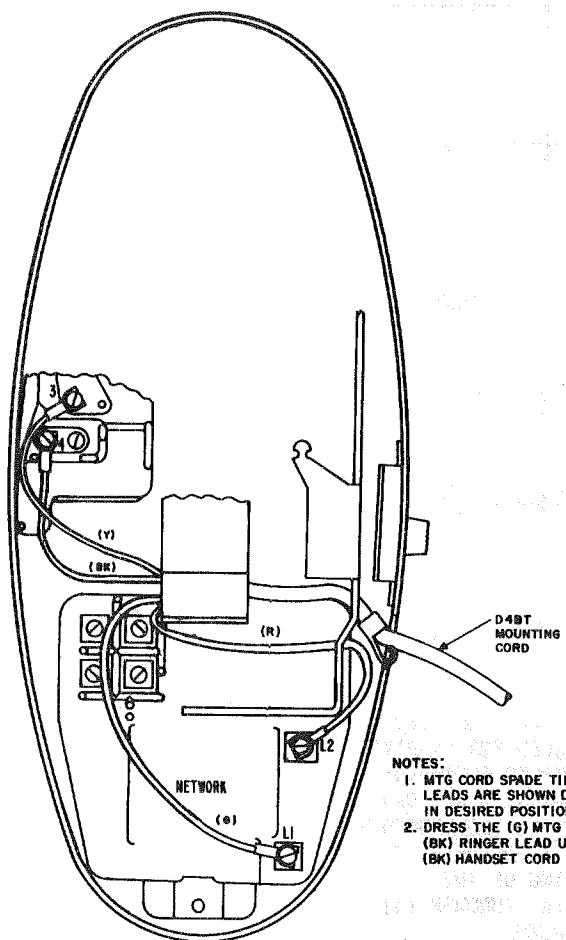

Fig. 6—Method of Terminating D4BT Mounting Cord on Sets with 4010-Type Network
1.05 Figure 6 or 7 indicates the termination of the D4BT mounting cord in sets equipped with 4010- or 4228-type networks, respectively.